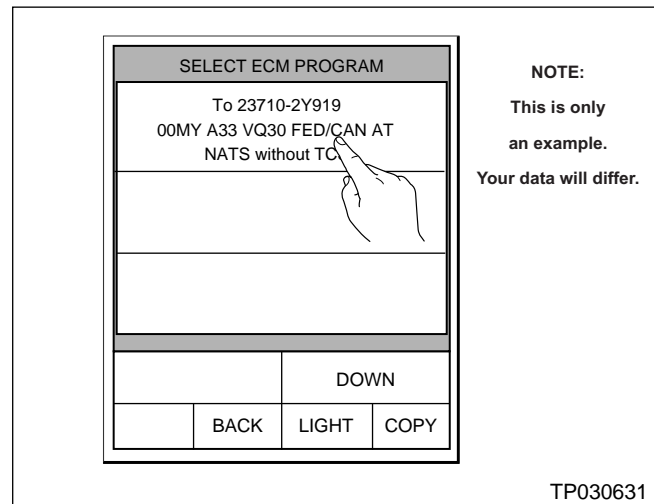

Figure 16
24. Select the ECM program to install (see Figure 16).